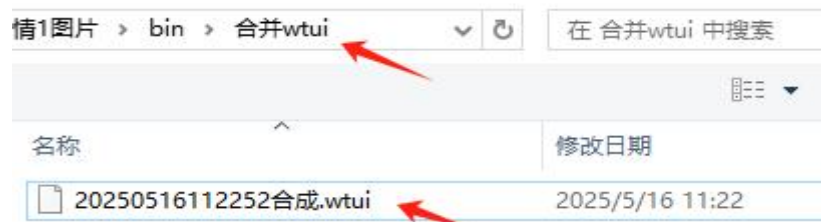

Figure 4-4 Naming of generation time.wtui
6. Synthesize and upgrade files: This will generate a "merged wtui" folder at the current time, and a ".wtui" file named after the time. This file is the overall program upgrade file, which cannot be larger than 14M. As shown in Figure 4-4.
7. Open the upgrade file: The "Merge wtui" folder will be opened as shown in Figure 4-4. In this folder, select the composite file you generated with the extension ".wtui". The file name is named by time for easy selection.